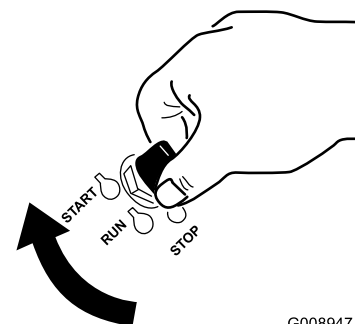

Figure 21
6. Turn the ignition key to the Start position (Figure 21).